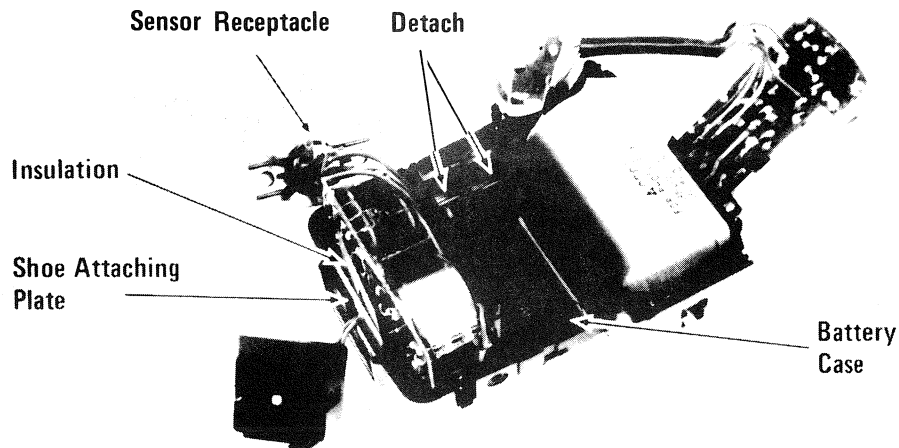

Figure 3-9. Battery Case Removal
- K. Detach battery terminals from battery case, and lift battery case out of body case LA. Fig. 3-9.
- L. Remove shoe attaching plate and associated piece of plastic insulation. Fig. 3-9.